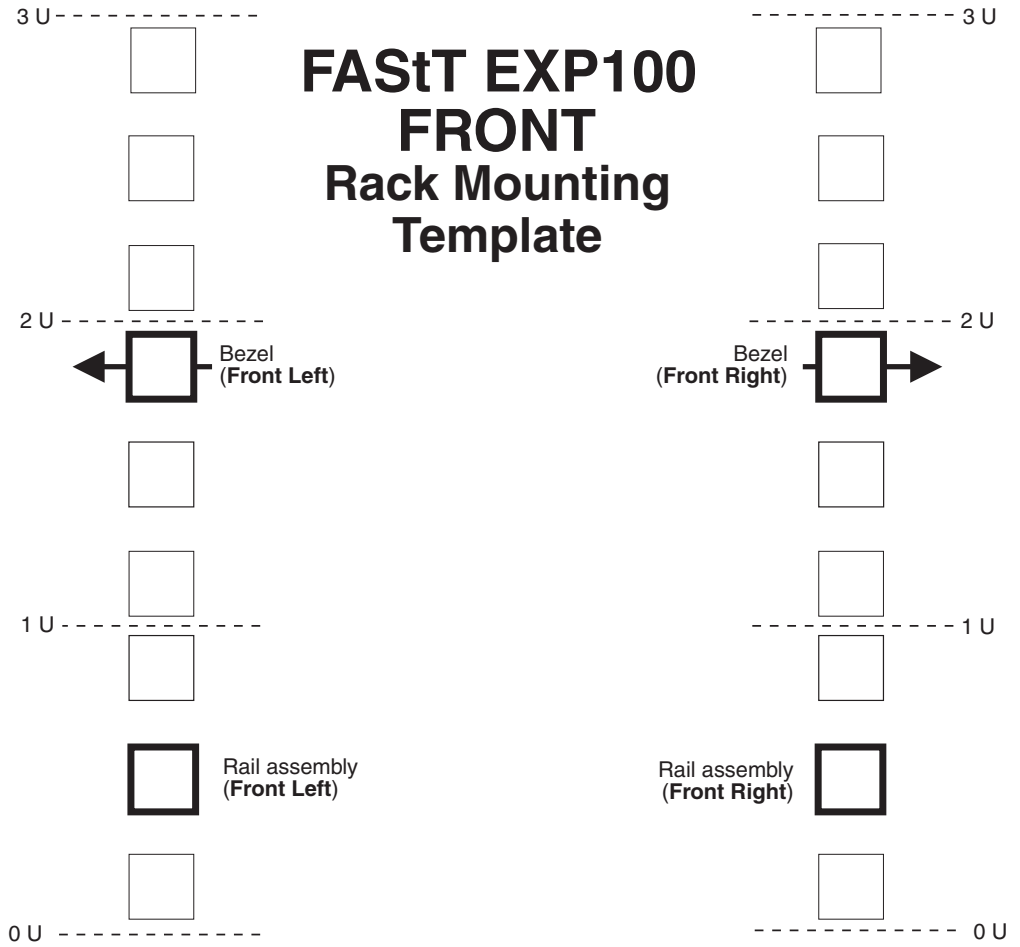
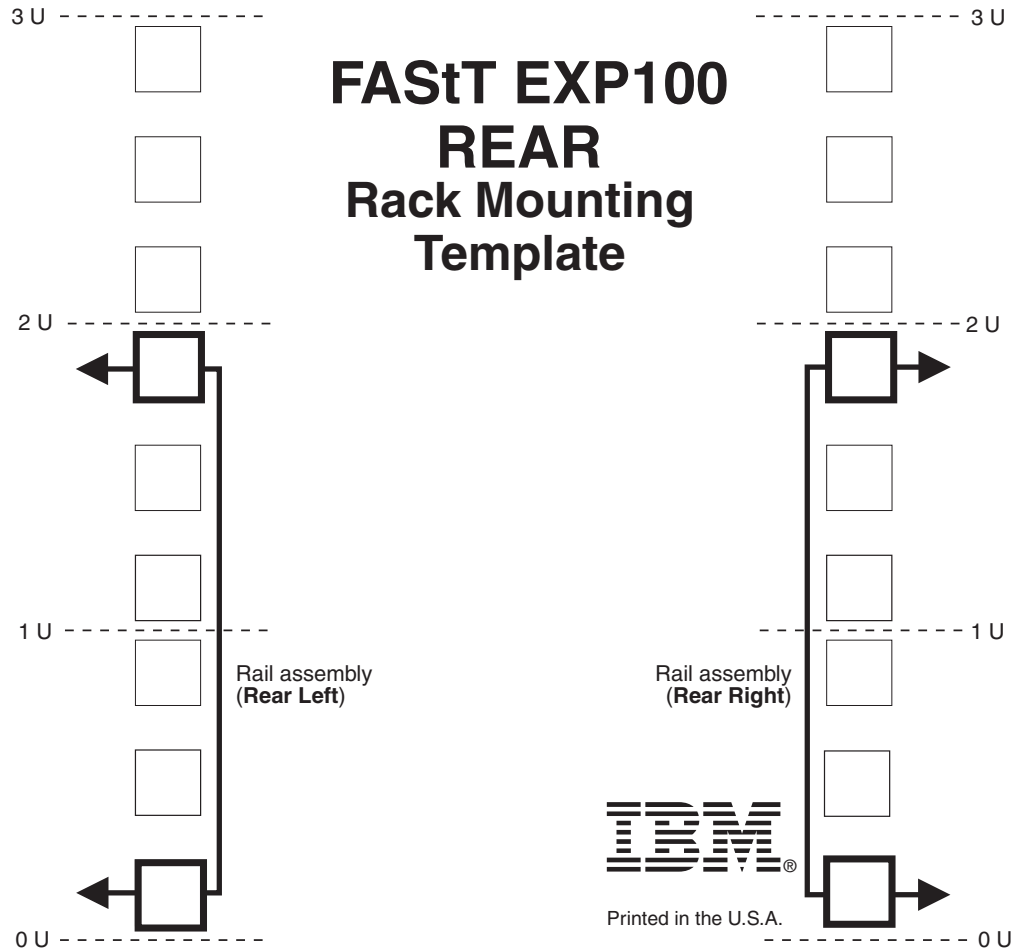

Figure 9. Front rack mounting template
Figure 10. Rear rack mounting template
Use the following templates (Figure 9 on page 19 and Figure 10 on page 20) to identify the proper locations for inserting M6 screws when mounting the support rails and FAStT EXP100 to a rack. The locations for the M6 screws are highlighted in the templates.
**Attention:** Use the rack mounting template provided in Figure 9 on page 19 and Figure 10 on page 20 to locate the proper rack mounting holes for installing the support rails into the rack.
- Hold the front of the rail against the inside of the right rack-mounting flange and loosely tighten the lower M6 screw ( **4** ). See Figure 9 on page 19 for the location for this screw.
- From the rear of the rack, thread and tighten two M6 screws ( **1** ) (see Figure 10 on page 20 for the location for these screws). From the front of the rack, finish tightening the front M6 screw ( **4** ).